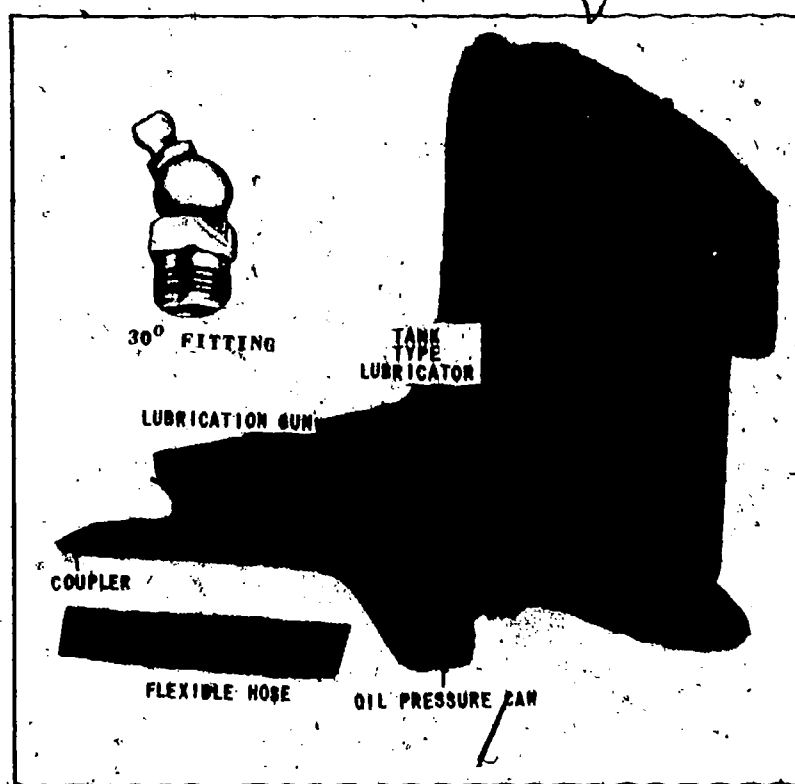

Fig 1-1. Lubricators and fittings.
- (1) Lubricators (fig 1-1). A hand lever pressure lubricator pumps chassis lube (grease) through a grease fitting into the part to be lubricated. The coupler may be attached to a rigid pipe or a flexible hose. The coupler has three metal jaws which require frequent cleaning and inspection for wear; when worn, the grease will escape between the fitting and the coupler. Some coupler jaws can be reversed when one end becomes worn. The head and hand lever screw off the gun for refilling. The gun can be partially filled by holding the open (head) end in the grease and pulling the handle; this will draw the grease into the gun. The handle has a lock position to hold the spring tension while completing the filling by hand. The hand lever gun will hold approximately 1 pound of general purpose (GAA) grease. The tank-type lubricator pumps gear oil (GO) into gearcases and housings. The lubricant is pumped through a flexible hose to a tip that is threaded to screw into lubrication holes or into couplers which connect with a fitting. The top is removed for filling the gun. It will hold approximately 5 gallons of GO. The oil-pressure can is used to pump engine oil onto linkage or other points.